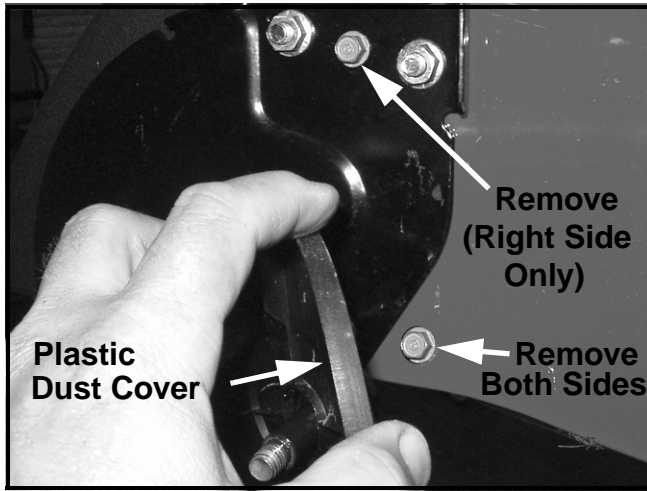

FIGURE 3
10. Using a 3/8" wrench or 1/4" drive 3/8" socket and ratchet remove the screws as shown in Figure 3.